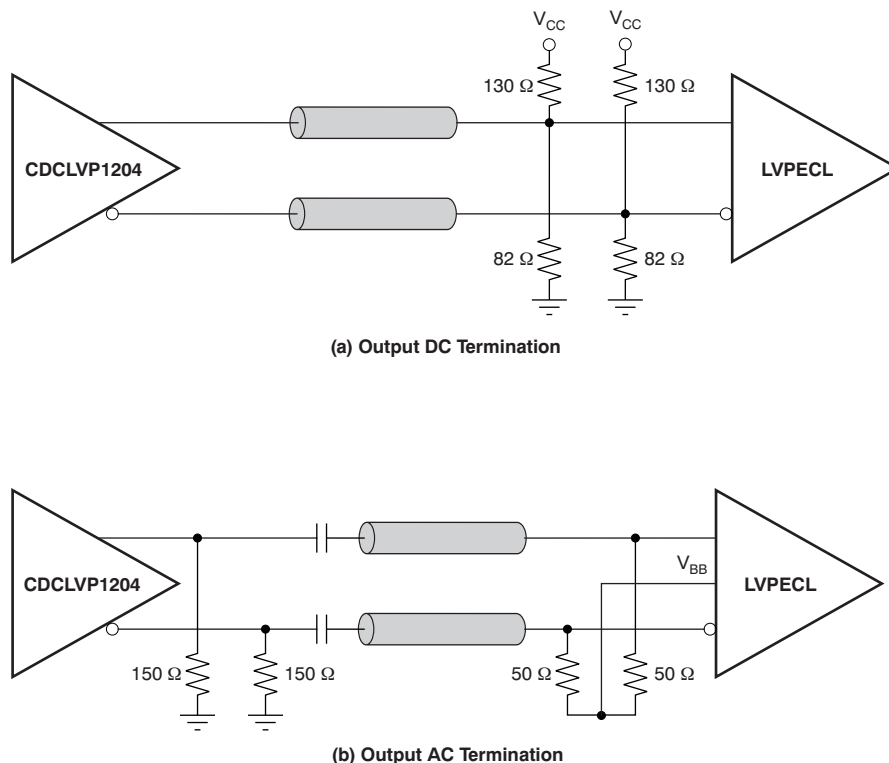

Figure 13. LVPECL Output DC and AC Termination for $V = 3.3 V_{CC}$
The CDCLVP1204 is an open emitter for LVPECL outputs. Therefore, proper biasing and termination are required to ensure correct operation of the device and to minimize signal integrity. The proper termination for LVPECL outputs is a $50\ \Omega$ to $(V_{CC} - 2)\text{ V}$, but this DC voltage is not readily available on PCB. Therefore, a Thevenin equivalent circuit is worked out for the LVPECL termination in both direct-coupled (DC) and AC-coupled configurations. These configurations are shown in Figure 12 (a and b) for $V_{CC} = 2.5\text{ V}$ and Figure 13 (a and b) for $V_{CC} = 3.3\text{ V}$, respectively. It is recommended to place all resistive components close to either the driver end or the receiver end. If the supply voltage for the driver and receiver is different, AC coupling is required.